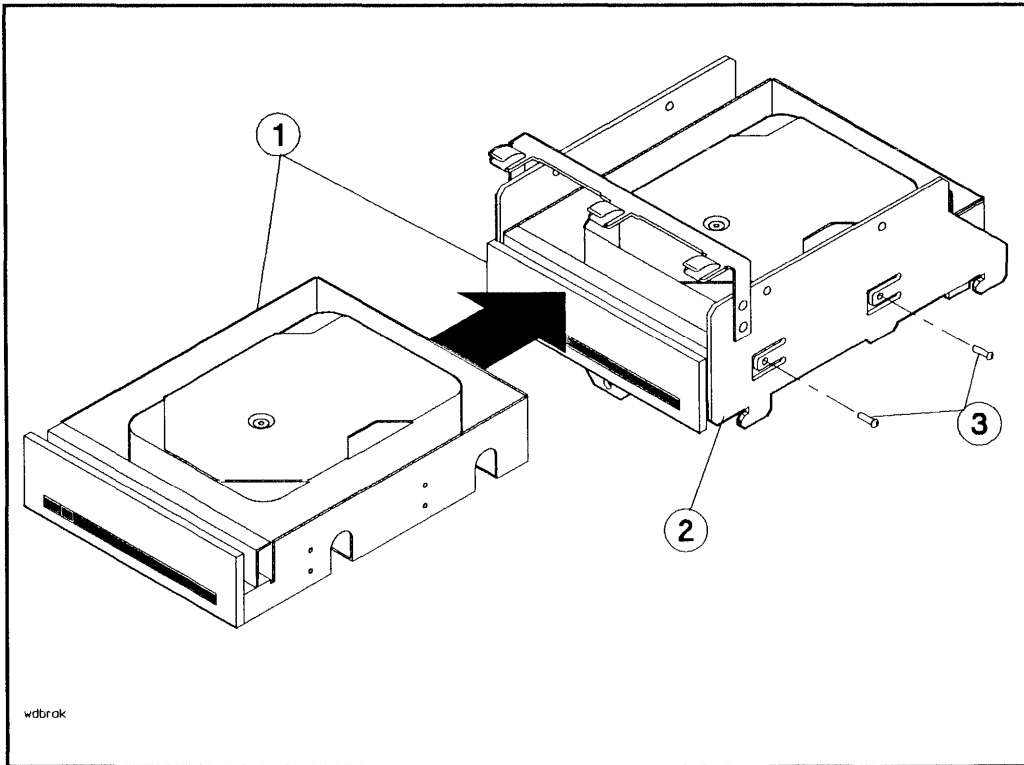

Figure 3-3. Installing a 3.5-inch Hard Disk Drive into a Mounting Bracket
5. Secure the drive in the mounting bracket with the T10 bracket screws (see Figure 3-3).
4. Secure the drive in the mounting bracket with the T10 bracket screws (see Figure 3-3).